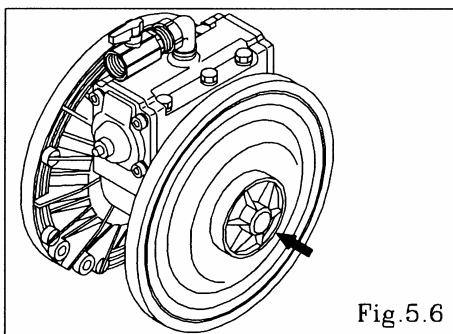

Fig. 5.6
- Remove the center disk from one side using the PP wrench (special tool: Part No. 771868). [Fig.5.6]